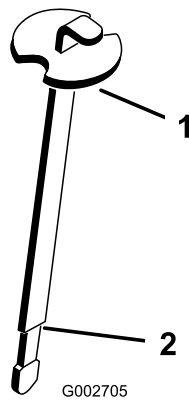

Figure 17
3. Remove dipstick from filler neck and wipe it with a clean rag. Insert dipstick into filler neck; then remove it and check level of fluid. Fluid level should be up to mark (necked down area) on dipstick (Figure 17).